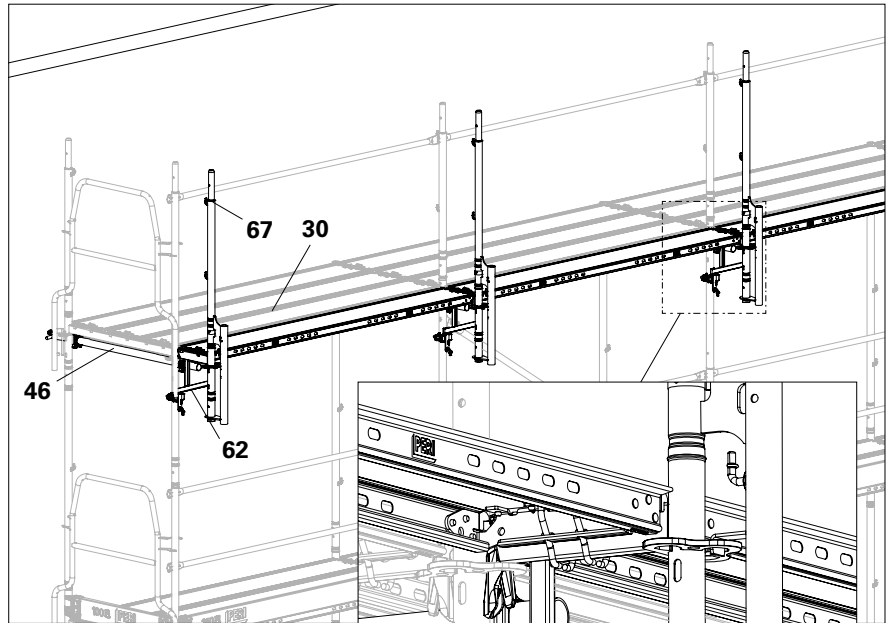
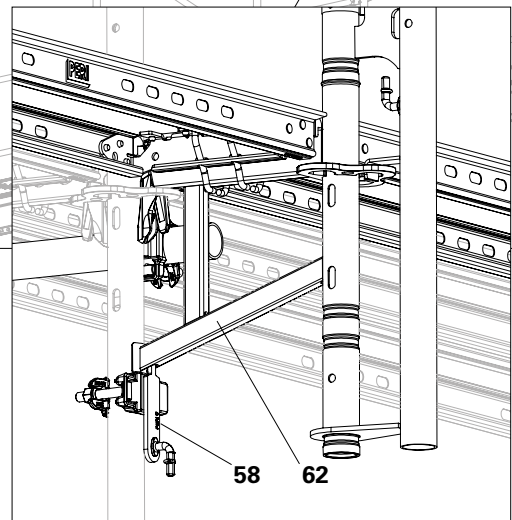

Fig. D2.05
Fig. D2.05a
1. Fit Console Bracket ECM 33 (62) together with the Protection Panel Post EPS (67), see Section "A6 System component: Console Bracket" on page 42 ff.
2. Securely connect the protection panel post (67) and console bracket (62) using a locking pin (19).
3. Secure every console bracket against lifting using a Guardrail Coupling EPR (58). (Fig. D2.05a)
4. Attach Steel Decks EDS (30).
- Variation 1: Anchor each frame column to the inner and outer leg of the vertical frames with a wall tie (46).
- See Section Tie pattern. (Fig. D2.05)